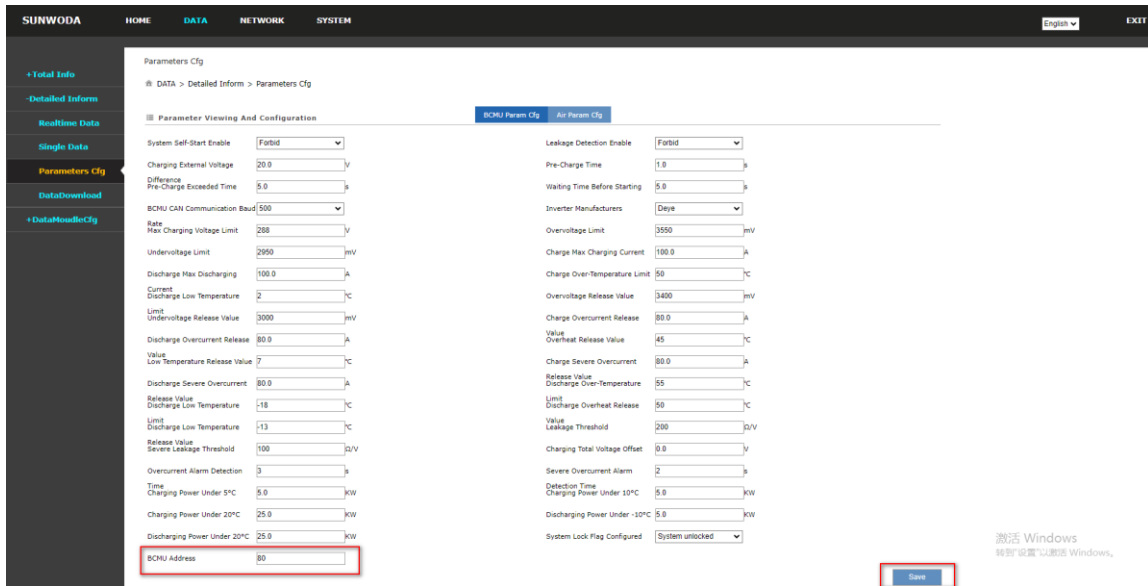

Figure 4.6
(4) Assign the address of the control box as "80" in the following screen (the stand-alone cabinet is the host by default), and click Set (Fig. 4.6) .